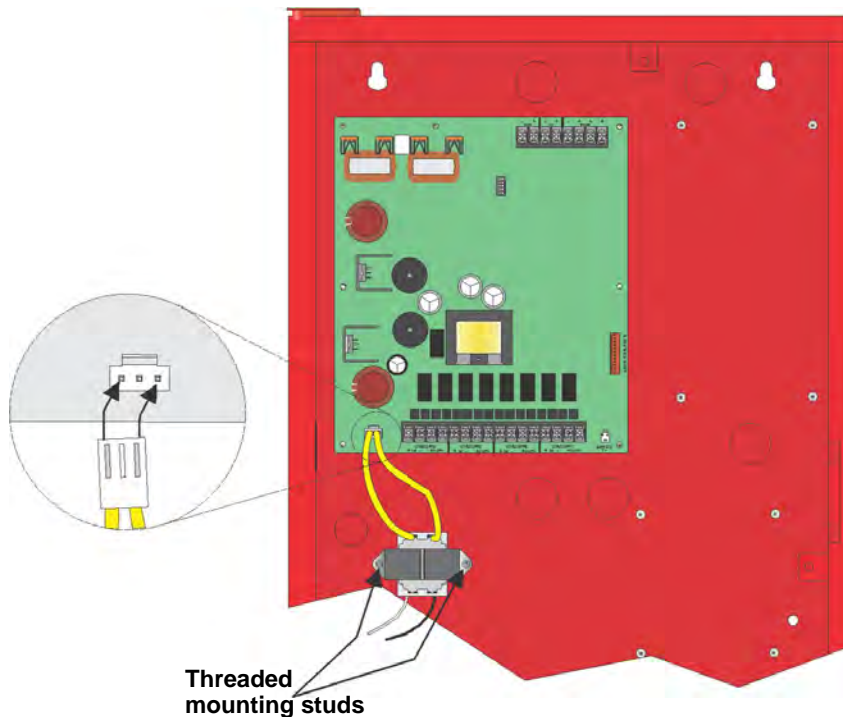

Figure 4.18 Transformer Mounting
3. Mount the transformer onto the threaded cabinet transformer mounting studs using the supplied locking hex nuts as shown in Figure 4.18.